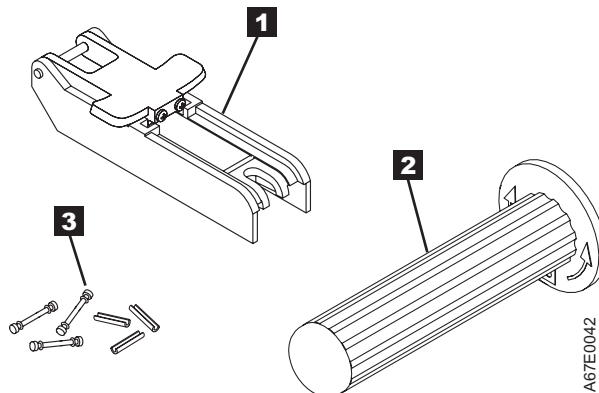

Figure 123. Leader Pin Reattachment Kit
- **Leader pin attach tool** (see **1** in Figure 123). A plastic brace that holds the cartridge door open.
- **Cartridge manual rewind tool** (see **2** in Figure 123). A device that fits into the cartridge's hub and lets you wind the tape into and out of the cartridge.
- **Pin supplies** (see **3** in Figure 123). Leader pins and C-clips.